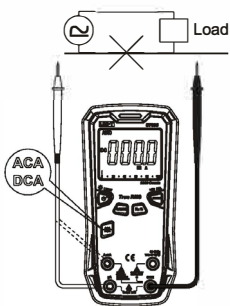

Figure 4a
6. AC/DC Current Measurement (Figure 4a,4b)